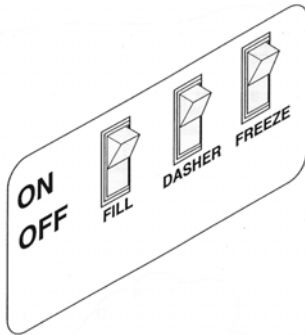

Fig. 15
2. Set the fill switch (Fig. 15) to the "ON" position.